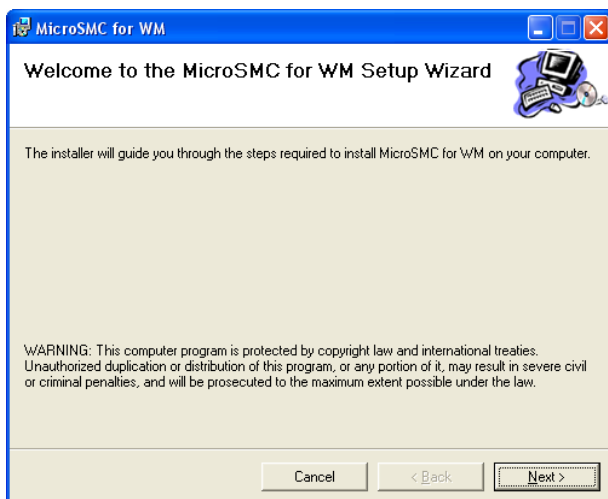

Figure 52. MicroSMC for WM host PC installation 1st screen
- Open "MicroSMC for WM" folder and run setup.exe. The first installation screen of MicroSMC for WM installation procedure will appear (see Figure 52).